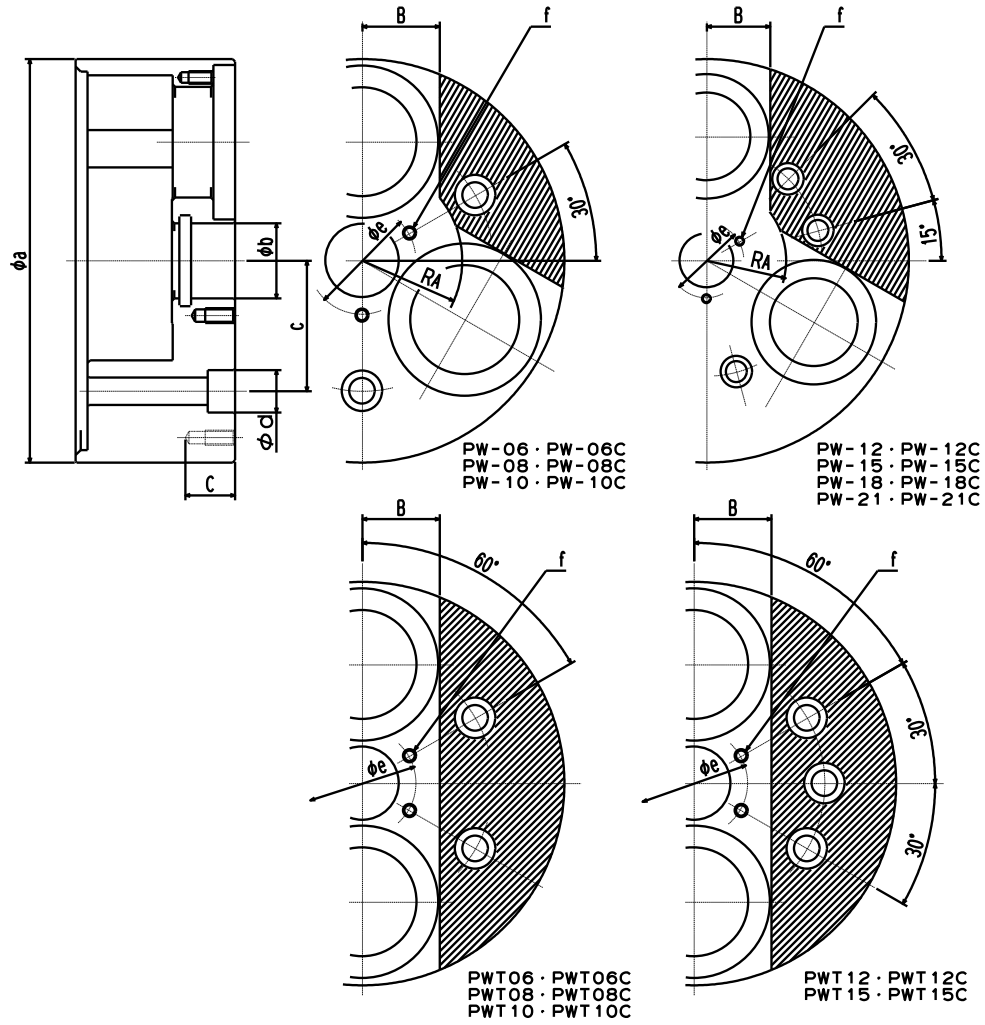

Fig.19
- In the case of attaching the locator and the jig on the chuck body surface, tap or drill a hole in the additional process range specified in Fig. 19